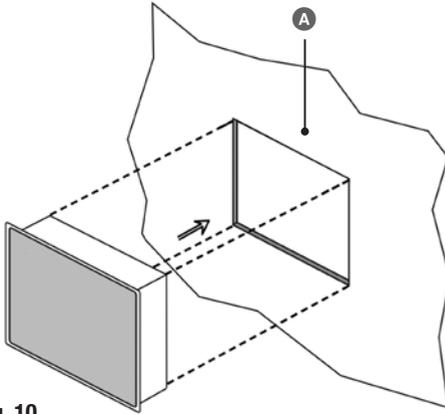

Fig. 10
1. Cut an aperture (see **Fig. 10**) in the control cabinet door or switch panel.